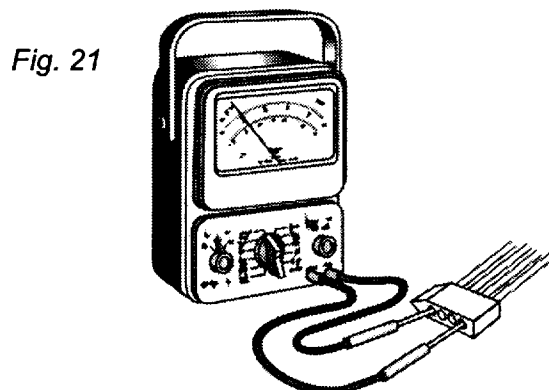

Fig. 21
5. Check for power supply to the motor by checking for 120 volts at terminals 1 and 4 in the wiring harness plug. If there is no power to the motor, check the timer and wiring. (Fig. 21)